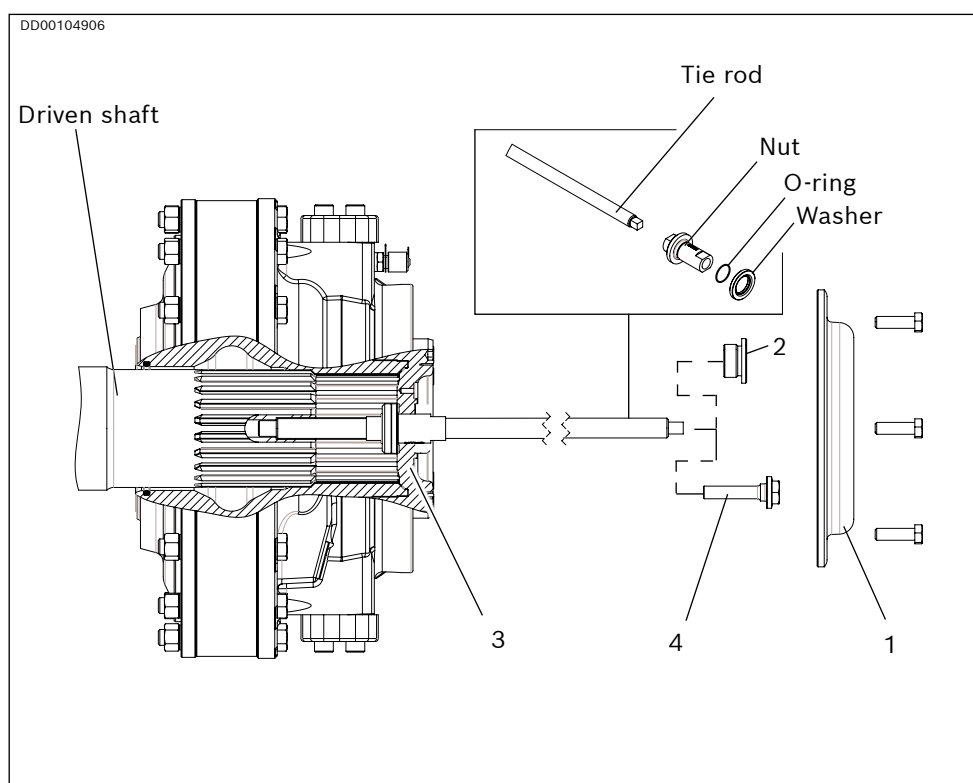

Fig. 58: Removing the CA spline motor
3. Remove the end cover (1) together with screws and washers.
4. Dismount the mounting kit (4) or the plug G1" (2).
5. Remove the bearing retainer (3). The oil will drain out.
6. Install the assembly tool with the nut according to *Fig. 58*. Screw it into the driven shaft by using a wrench at the key grip at the end of the assembly tool.
7. Remount the bearing retainer (3).